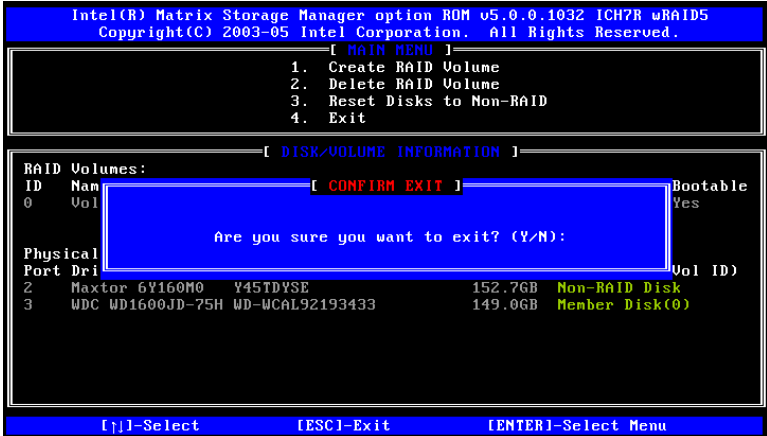

Figure F-17: Exit Verification
**Step 2: Exit Verification.** Press Y to exit the Matrix Storage Manager, or N to return to the Main menu. See Figure F-17.